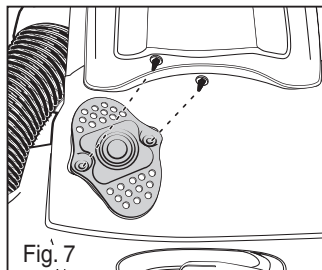

Fig. 7
- 1) Unscrew the lens and remove old bulb. Replace with bulb rated 12v., 10w., Type 904 (Fig. 7).